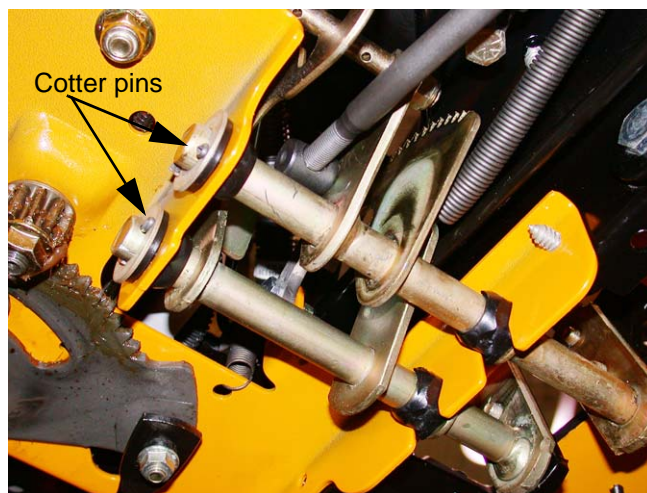

Figure 24.16
24.16. Remove and discard the cotter pins that hold the inboard bushing in place on both the speed control assembly and the brake control assembly. See Figure 24.16.